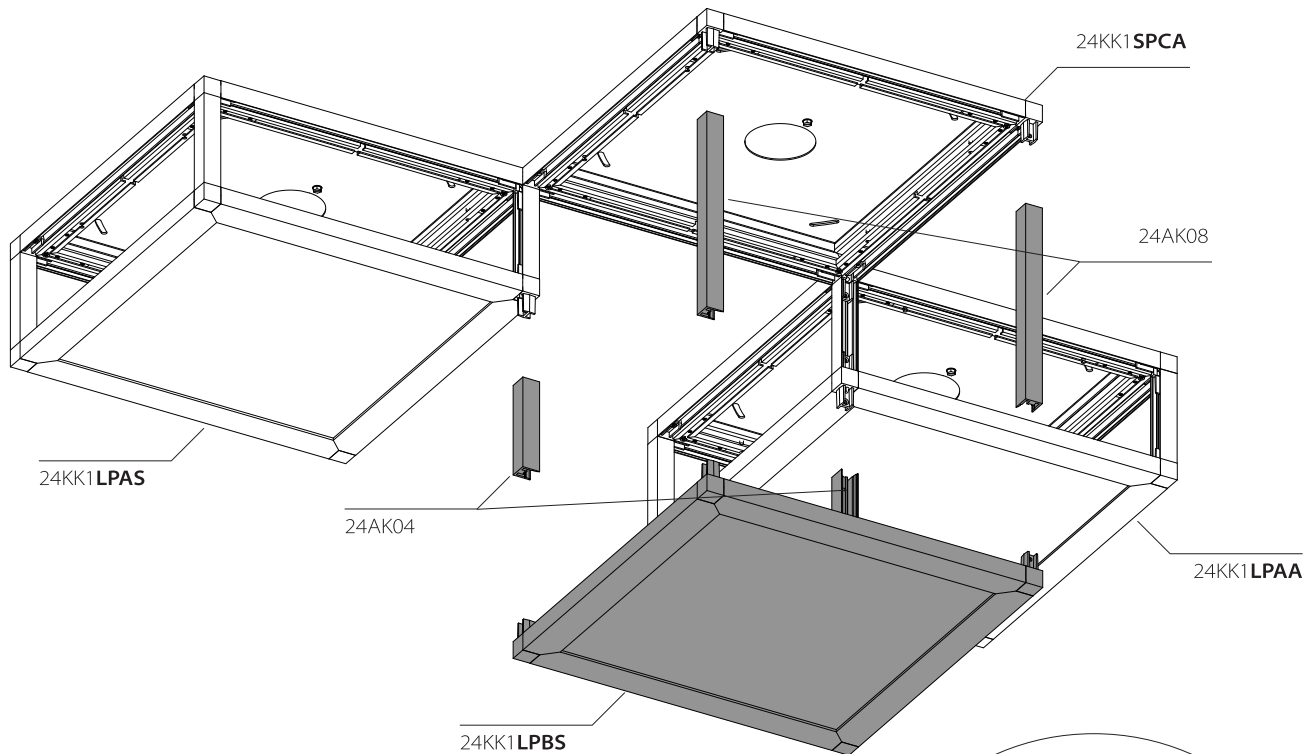

Fig. 5a
8. Install (2x) 24AK08 and (2x) 24AK04 to 24KK1LPBS in the orientation shown in Fig. 5a and install assembly to 24KK1LPAA, 24KK1LPAS, and 24KK1SPCA.